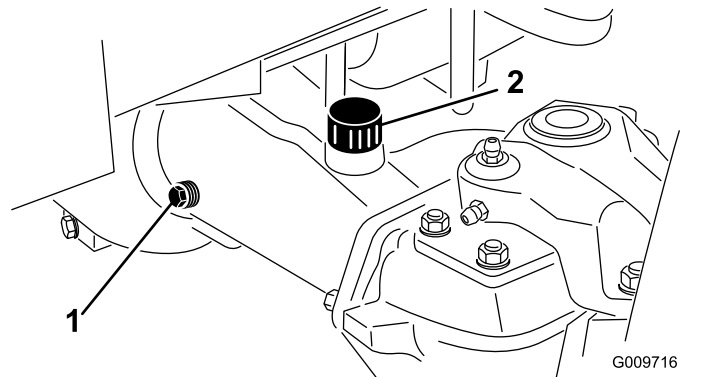

Figure 65
2. Remove a check plug from one end of the axle (Figure 65) and make sure that the lubricant is up to the bottom of the hole. If the level is low, remove the fill plug (Figure 65) and add enough lubricant to bring the level up to the bottom of the check plug holes.